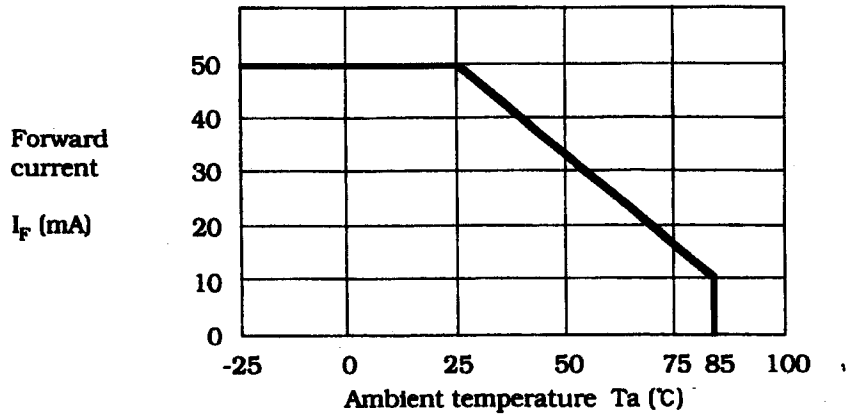

Fig.2 Collector power dissipation vs. ambient temperature
2. MAX. 20 sleeves (5 lines X 4 stairs) above shall be packaged in a outer case. (Fig.2)